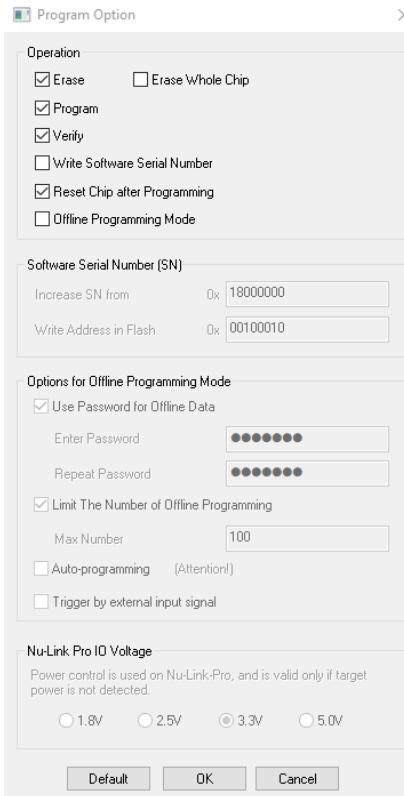

Figure 4-5 ICP Tool Programming Options
Step 4: Click **Option** in the **Program** section of the *ICP Tool Window* to open the *Program Option* form, as shown in Figure 4-5.
Step 5: In the **Nu-Link Pro IO Voltage** section, specify the power voltage of the SWD port for the target chip, and then click **OK**. To use the offline programming function, the Offline Programming mode option needs to be selected, as shown in Figure 4-5.